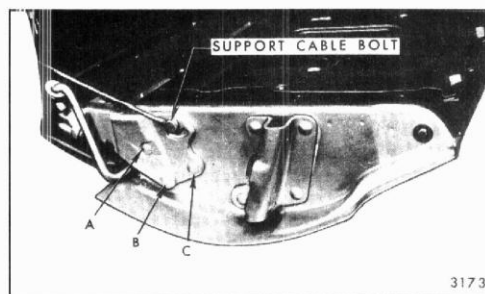

Fig. 9-28-Dual Acting Tail Gate Left Lower Hinge-Removal "B" Body Shown- "A" Body Typical
3. Lower tail gate and support in a full-open position. Remove support cable to left lower hinge to gate bolt or nut (Figure 9-28). On "A" styles, the support cable bolt is retained with a nut. On "B" body styles, a bolt is installed into a tapping plate.
- A. On "A" body styles, bolt A, Figure 9-28, fits into a tapping plate. Bolts B and C, Figure 9-28 are pressed into the hinge assembly and retained to the tail gate by nuts. The pressed
- B. On "B" body styles, bolts A B and C, Figure 9-28, are pressed into the hinge assembly and retained to the tail gate by nuts. The pressed bolts are removed with the hinge - not separately.